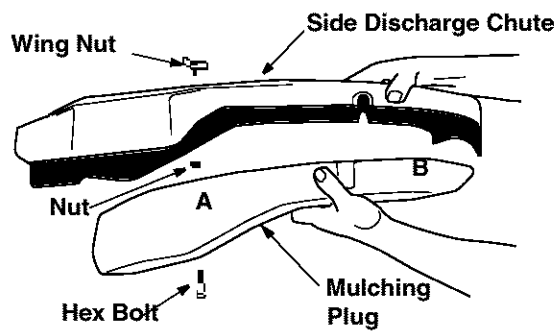

Figure 3
1. Put two hex bolts through the mulching plug at the respective openings. See Figure 3 .
5. Place wing nut on each of the hex bolts and thread a few turns. See Figure 3 . Check that the mulch plug is aligned correctly within the discharge chute.